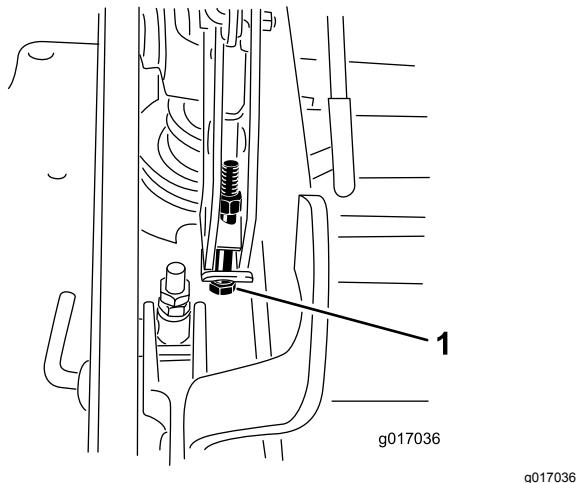

Figure 102
12. If the deck is too low, tighten the single-point-adjustment bolt by rotating it clockwise. If the deck is too high, loosen the single-point-adjustment bolt by rotating it counterclockwise (Figure 102).